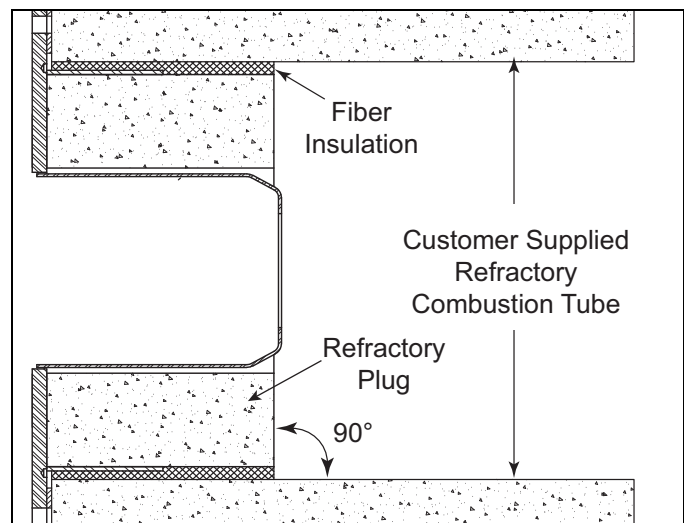

Figure 3.5. Refractory Plug
- The combustion tube dimensions are held as given in the Winnox Datasheet series 111. See Figure 3.5.